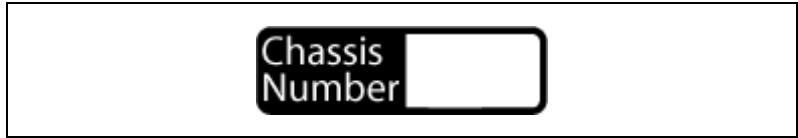

Figure 2-7. Chassis Number Label
5. Apply the chassis number labels (shown in Figure 2-7) included with your kit to each chassis in your PXI system, and write in the chassis number accordingly in the white space.